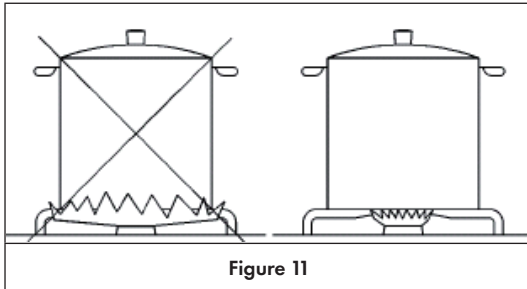

Figure 11
- Use proper pan size (with flat bottom only) for each burner (see the table below and figure 11).